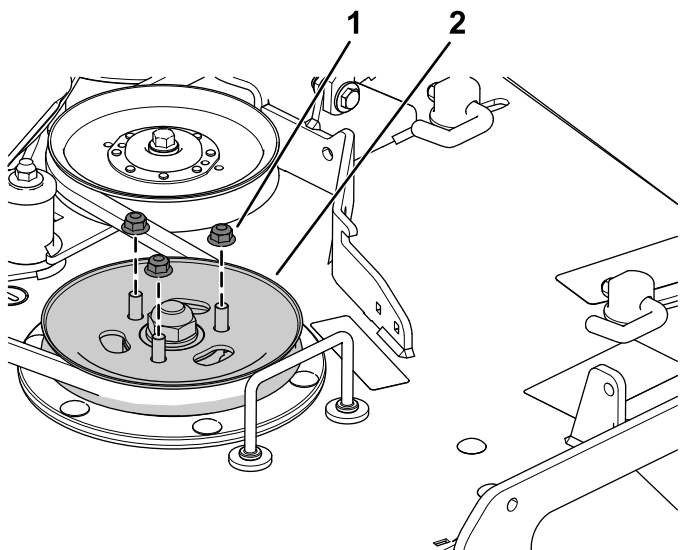

Figure 4
1. Remove the flange nuts from the existing mower deck pulley (Figure 4).